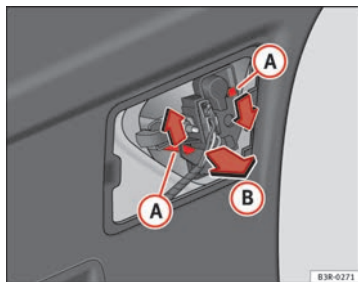

Fig. 235 Remove the bulb holder
- Press on the tabs A ⇒ Fig. 235 in the direction of the arrows and remove the bulb holder by pulling in the direction of the arrow B.